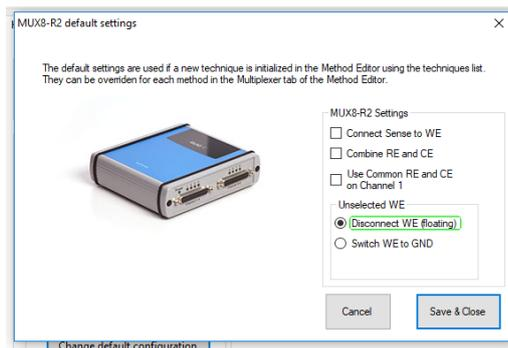

Figure 3.4: Multiplexer settings
4. Click on *Change default configuration* and make sure the boxes, *Combine RE and CE*, *Use common RE and CE on channel1* are **not** checked. The option *Disconnect WE (floating)* for *unselected WEs* should be chosen (see Figure 3.4).